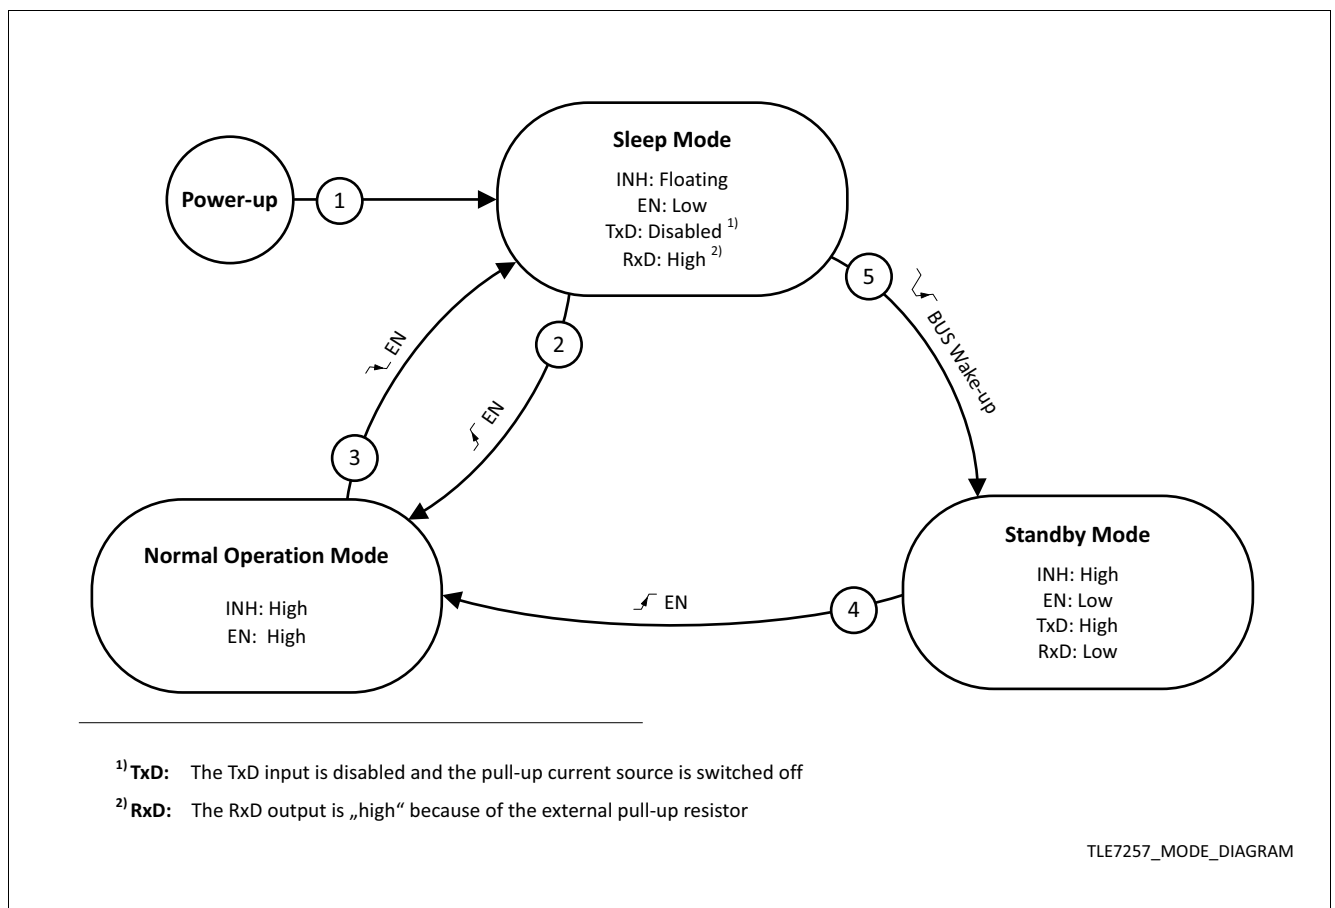
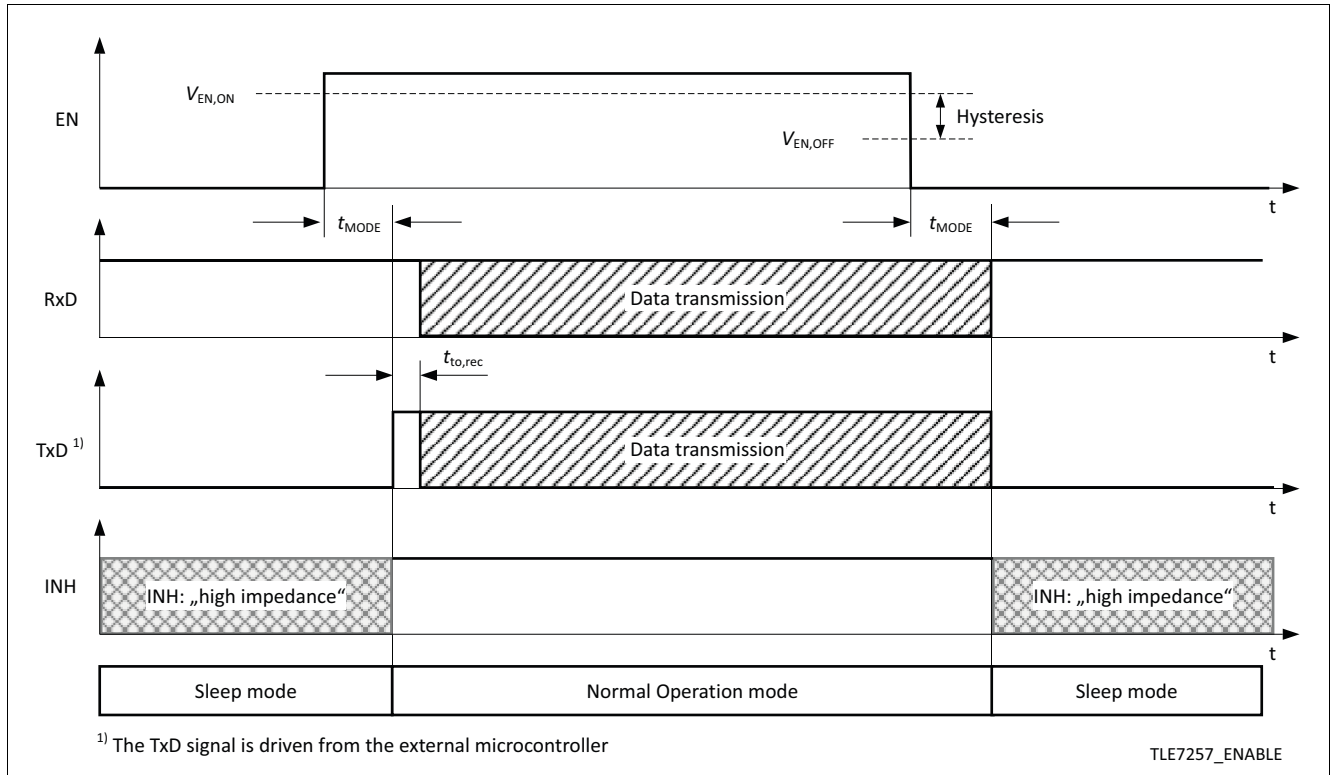

Figure 4 Operation mode state diagram
Figure 9 Entering Normal Operation mode from Sleep mode
The TLE7257 has 3 major operation modes (see Figure 4):
Normal Operation mode can be entered from either Sleep mode (see Figure 9) or from Standby mode (see Figure 5), by setting the EN input to logical "high". From Normal Operation mode the TLE7257 can only enter Sleep mode, it is not possible to enter Standby mode directly (see Figure 4).
- The RxD output indicates a wake-up event (see Figure 4 and Table 1).
To switch the TLE7257 from Normal Operation mode to Sleep mode, the EN input has to be set to "low". Conversely a logical "high" signal on the EN input sets the device directly back to Normal Operation mode (see Figure 4). The TLE7257 can only enter Sleep mode from Normal Operation mode.
The EN input is used for operation mode control of the TLE7257. By setting the EN input logical “high” for the time t_{MODE} while being Sleep or Standby mode, a transition to Normal Operation mode will be triggered (see Figure 9). The EN input has an integrated pull-down resistor to ensure the device remains in Sleep or Standby mode even if the EN pin is left open. The EN input has an integrated hysteresis.